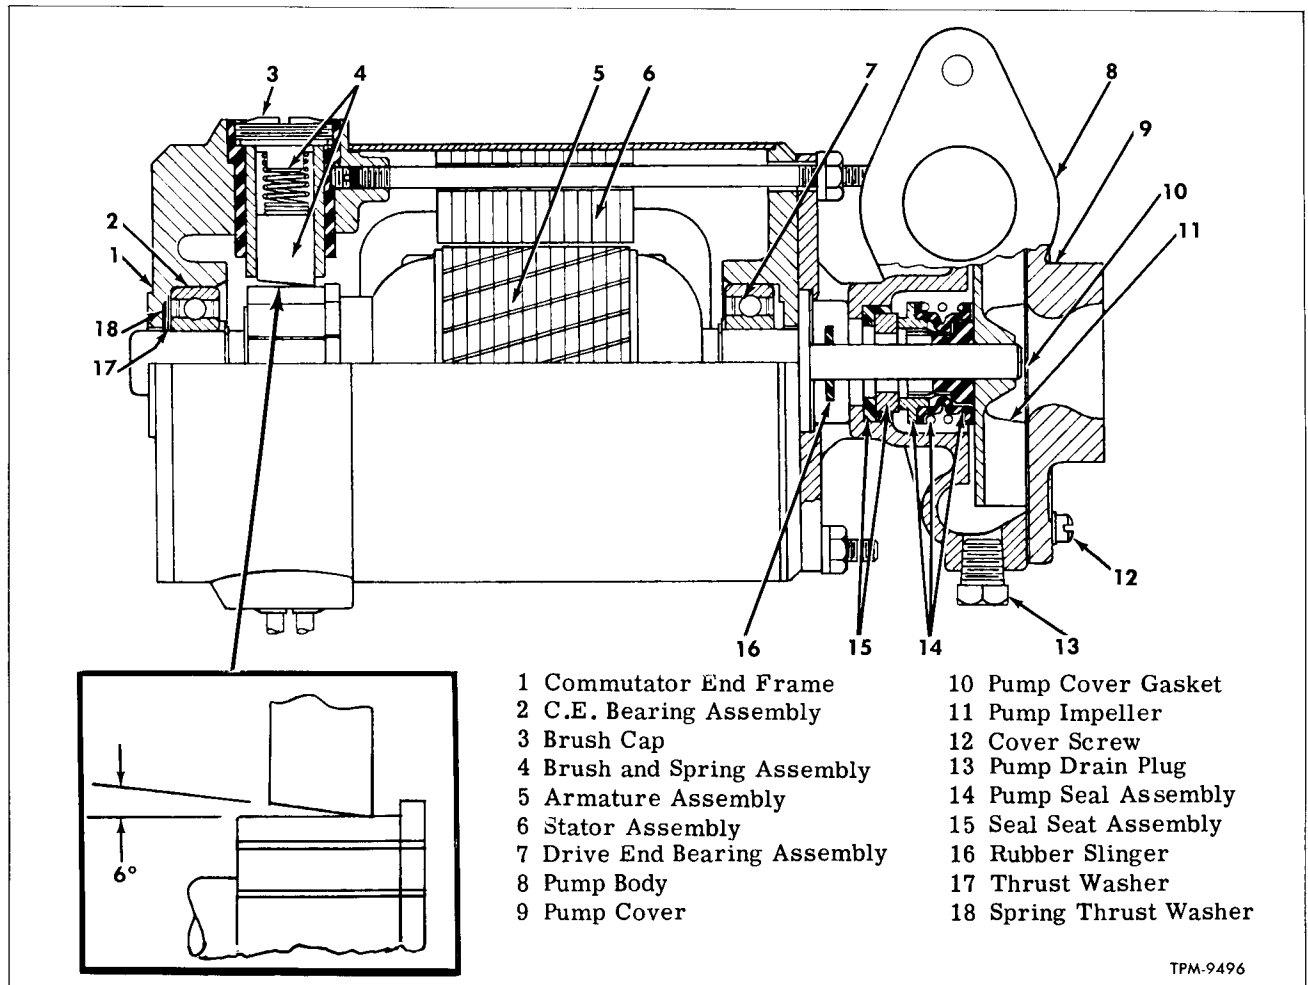

Figure 14—Heating System Water Pump and Motor
HEATING AND VENTILATION**DISASSEMBLY (Refer to Fig. 14)**
INSPECTION (Refer to Fig. 14)
d. New brushes have a 6° angle on the brush face. The brush should always be inserted so the angle is open away from the pump end of the assembly (see fig. 14).
ASSEMBLY (Refer to Fig. 14)